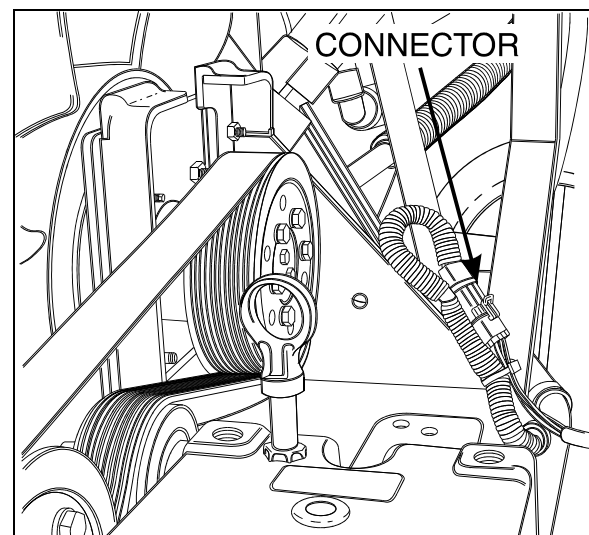

FIGURE 16: ENGINE COMPARTMENT 01069
10. Disconnect the electric fan-clutch connector, close to the water pump (Fig. 16).